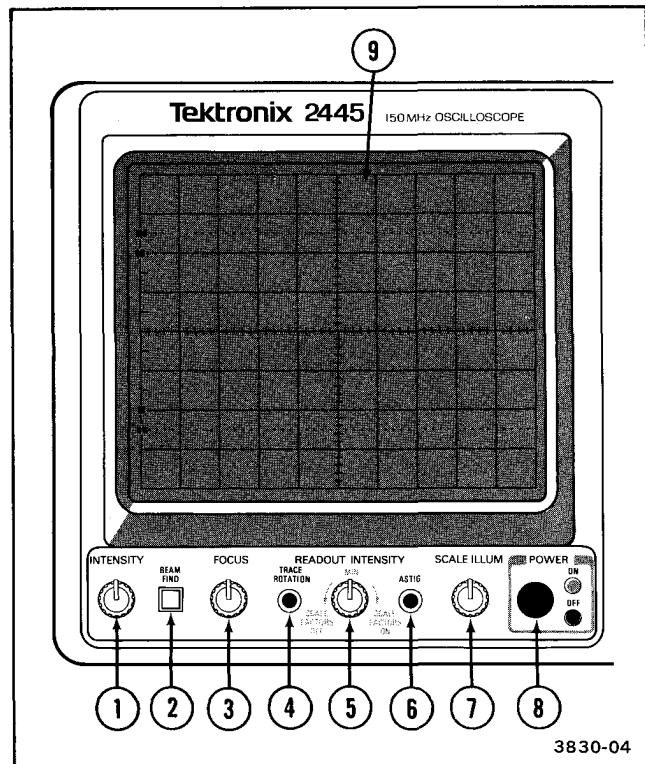

Figure 3-1. Power and display controls.
Refer to Figure 3-1 for location of items 1 through 9.